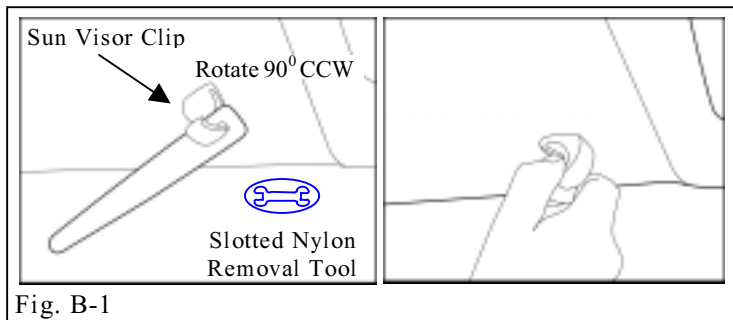

Fig. B-1
2. Using a slotted nylon removal tool, rotate driver side sun visor clip 90° counterclockwise. (Fig. B-1)